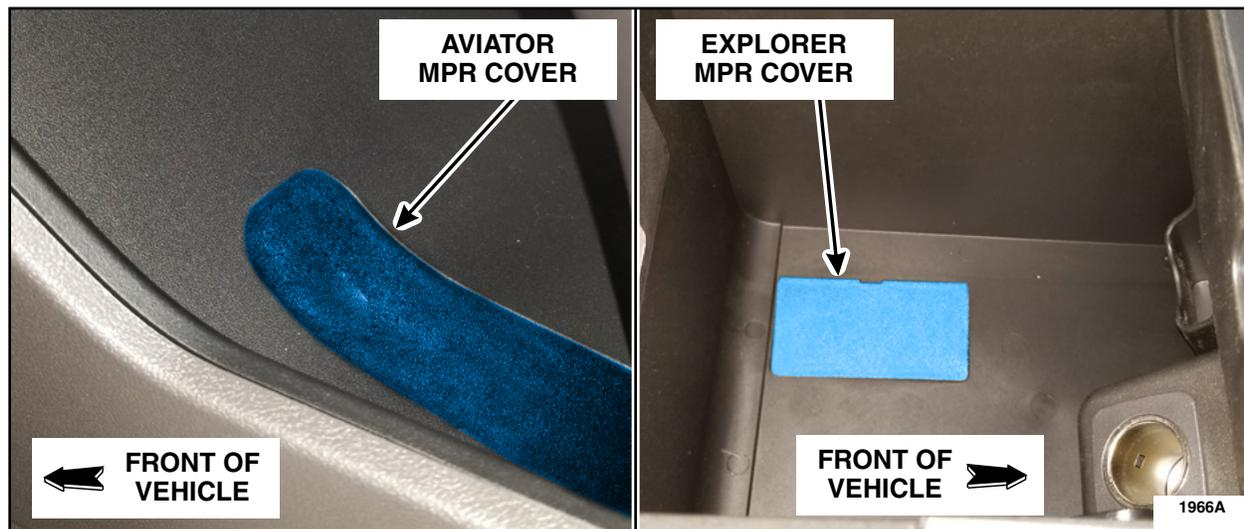

FIGURE 1
**NOTE:** Ensure ELECTRONIC PARKING BRAKE is applied, Key On, Engine OFF with Park (P) selected during the entire procedure.
1. Locate the Manual Parking Release (MPR) cover. See Figure 1.